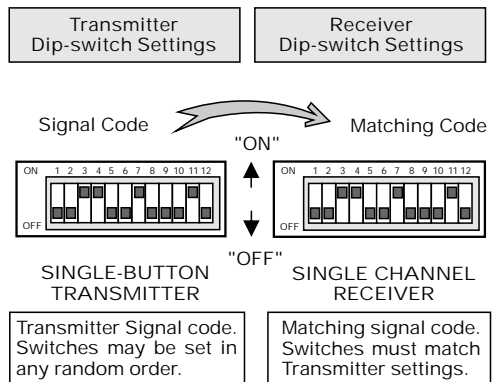

Figure No. 21
The DIP-SWITCHES may be set in any random order, either "ON" or "OFF". The Dip-switches of the Receiver, (RX), and those of a Single Button Transmitter, (TX1), must match each other exactly!!! ( See Figure No. 21 )